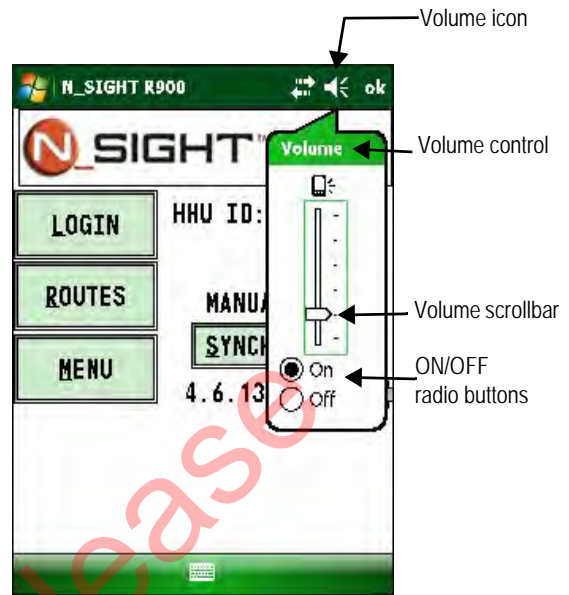

Figure A.8 Nomad Volume Control
- 1 On any screen in N\_SIGHT R900, click the volume icon at the top of the screen. The following drop-down scrollbar appears. See Figure A.8.